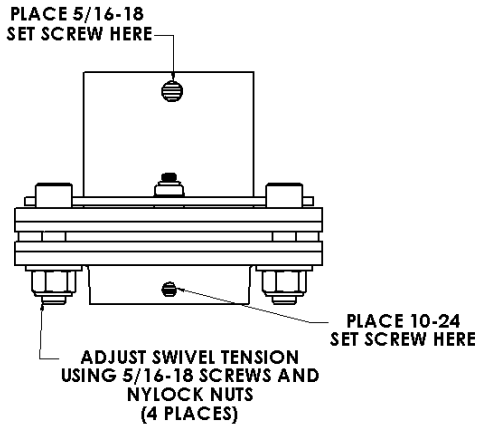

Figure 4. Set Screws and Swivel Tension Adjustment
3. Make sure the Swivel Adapter is tightly threaded on 1 ½” NPT pipe and secure using the 5/16 – 18 and 10-24 socket set screws provided (see Figure 4)..
5. Adjust swivel tension by tightening/loosening the 5/16-18 screws and Nylock nuts (see Figure 4).